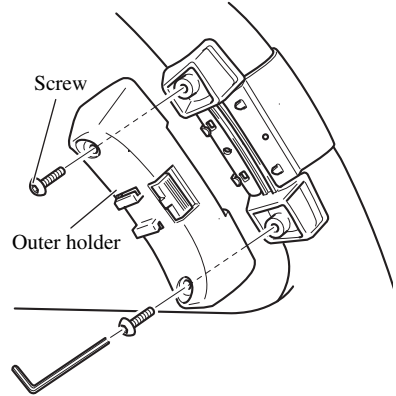

Fig. 9
3. Install outer holder on the inner holder and secure with screws. (Fig. 9)